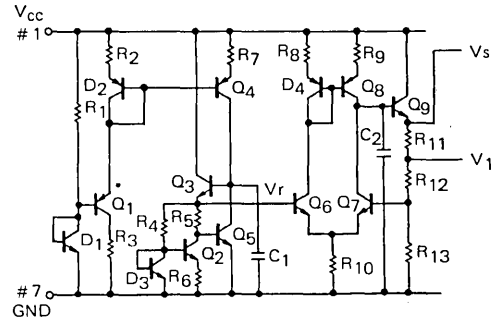

Fig. 8 Stabilized Voltage Circuit
The equivalent circuit of the stabilized voltage Circuit is shown in Fig. 8. In Fig. 8 the stabilized voltage V_s is expressed by the equation (1), the reference voltage V_r is expressed by the equation (2). Both are constant against variations of the power supply.